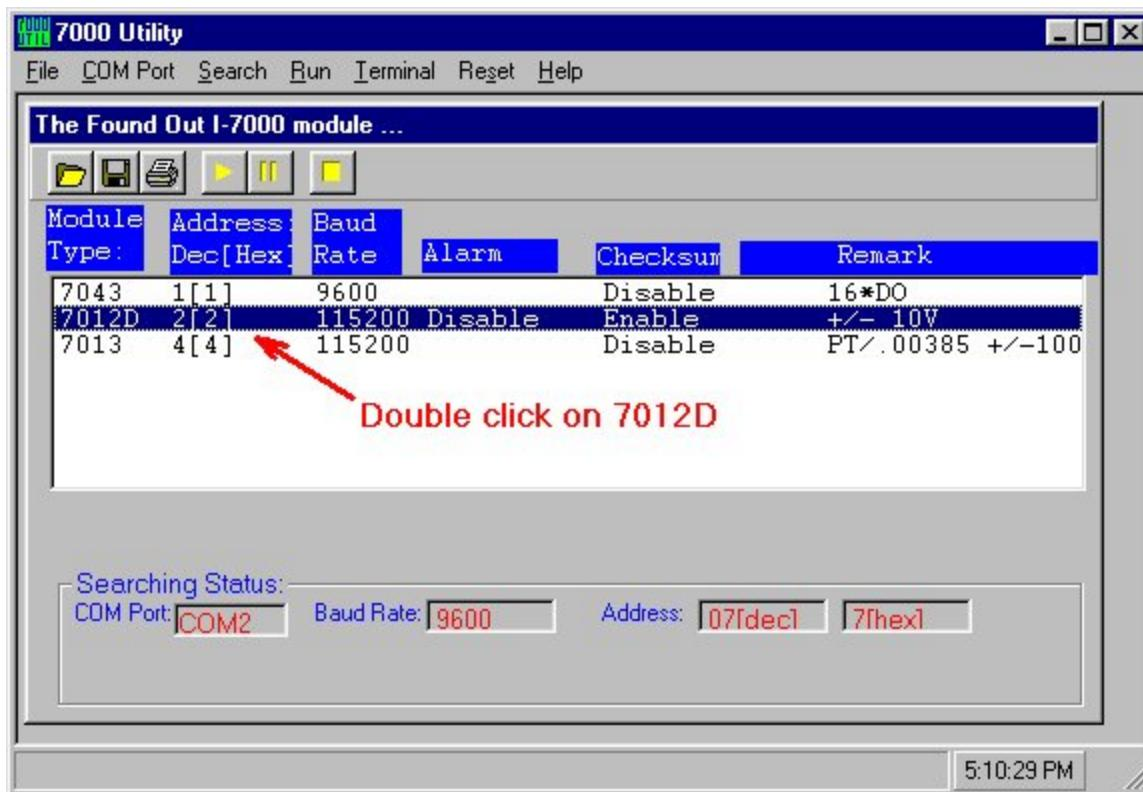
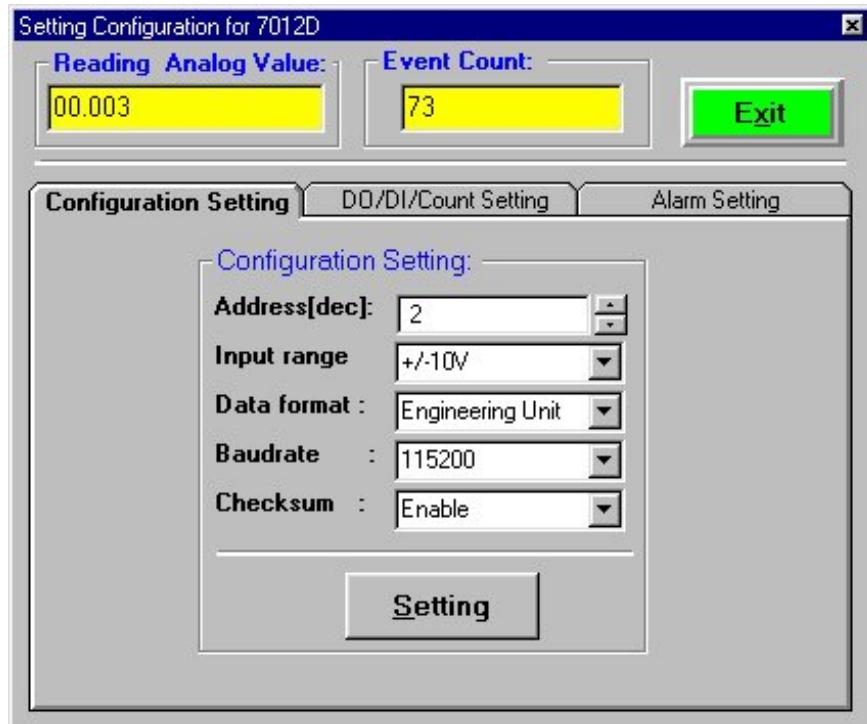
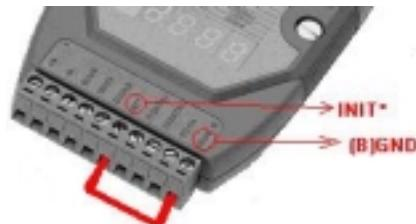

Figure 2-5-4. Showing the configuration settings for the I-7012 module.
Figure 2-5-5. The “Setting Configuration for 7012D” window pops up.
Figure 2-6-1. Using a wire to short the pin of “INIT*” and “(B) GND”.
For example, in order to configure the I-7012; double click the 7012 from the list as shown in Figure 2-5-4. Then, a window titled “Setting Configuration for 7012D” pops up as shown in Figure 2-5-5.
Before clicking the “Setting” button on the “Setting Configuration for XXXX” window to change either the baud rate or checksum, please refer to Figure 2-5-5. Users have to short the “INIT*” and “GND” pins of this module. Please refer to Figure 2-6-1 ~ 2-6-3.
- Use a wire to connect the “INIT*” and “GND” of this module. Refer to Figure 2-6-1.